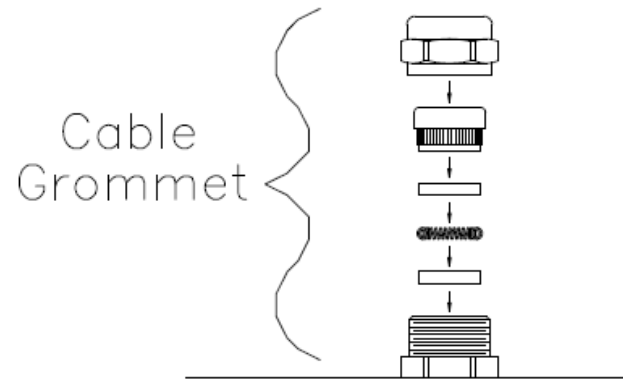

Figure 6: Cable Grommet
1. Remove the cable grommet hardware from the desired I/O connector housing (See Figure 6).